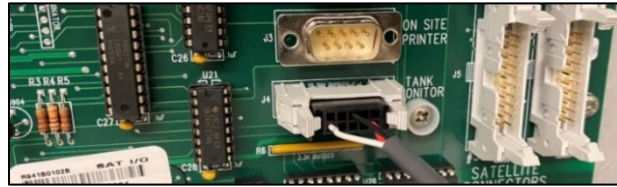

Figure 2 Cable to Sat I/O Connection
- a. If Legacy, connect the 10-pin 191F0234-10 cable to the J4 connector of the Sat I/O board (Figure 2).